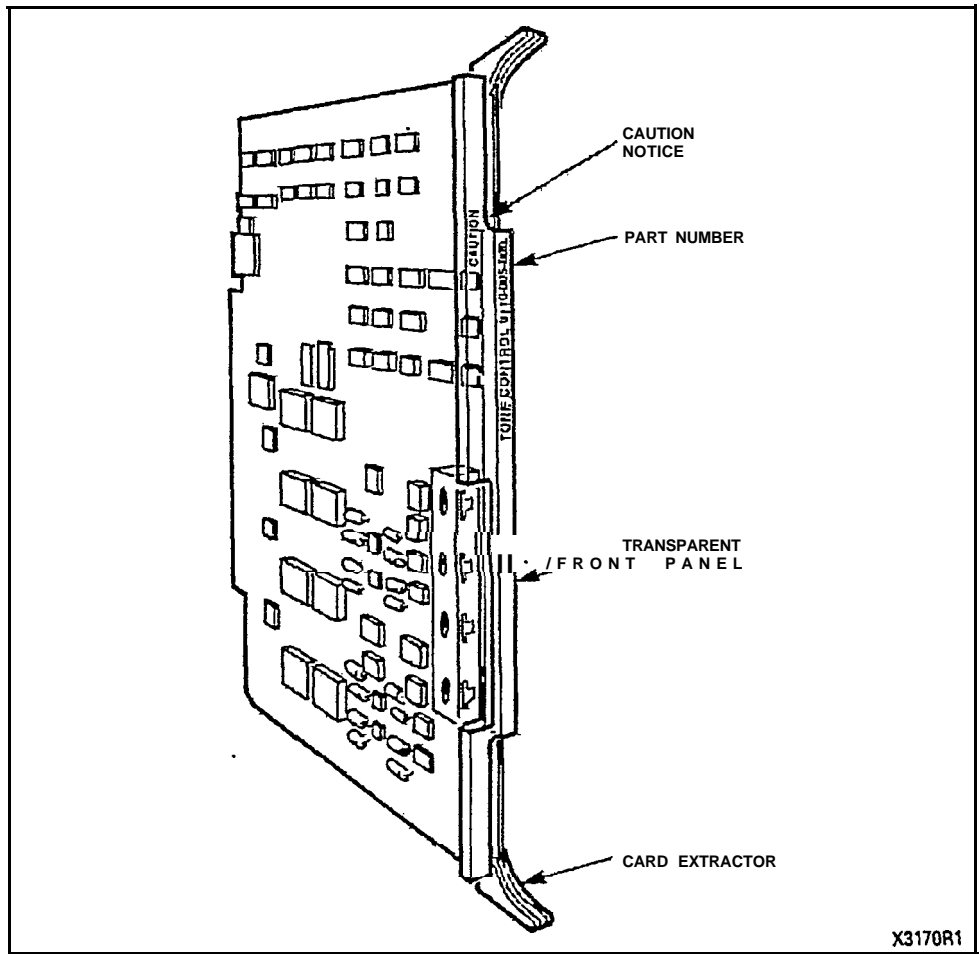

Figure 2-6 Typical Printed Circuit Card
2.12 All circuit cards (Figure 2-6) within the system are identical in construction and consist of a fiberglass board with printed wiring patterns on both of its faces. Riveted to the front of each board is a transparent faceplate which allows the LEDs mounted on the front of the boards to be easily seen. The color-coded card extractors located at the top and bottom of the faceplate identify the card position within a shelf and ensure that the card is seated correctly in the backplane connector.